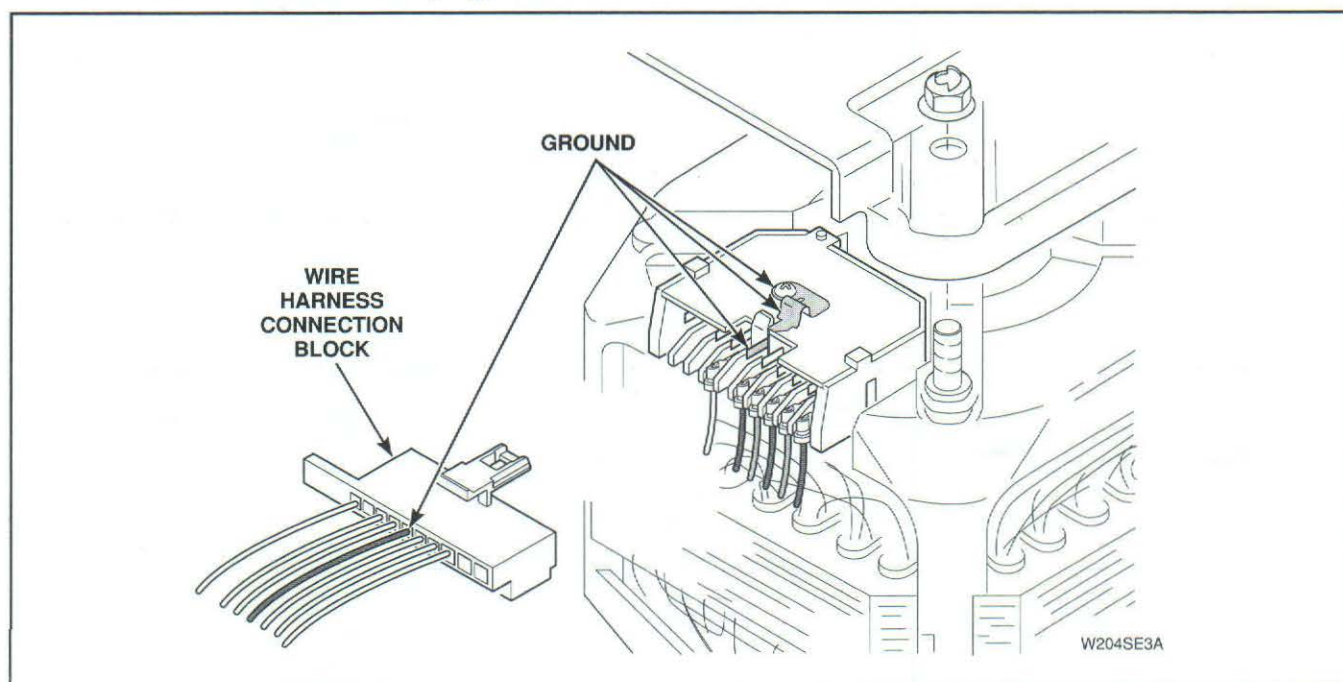

Figure 4
4. WIRE HARNESS TO MOTOR, *Figure 4.*